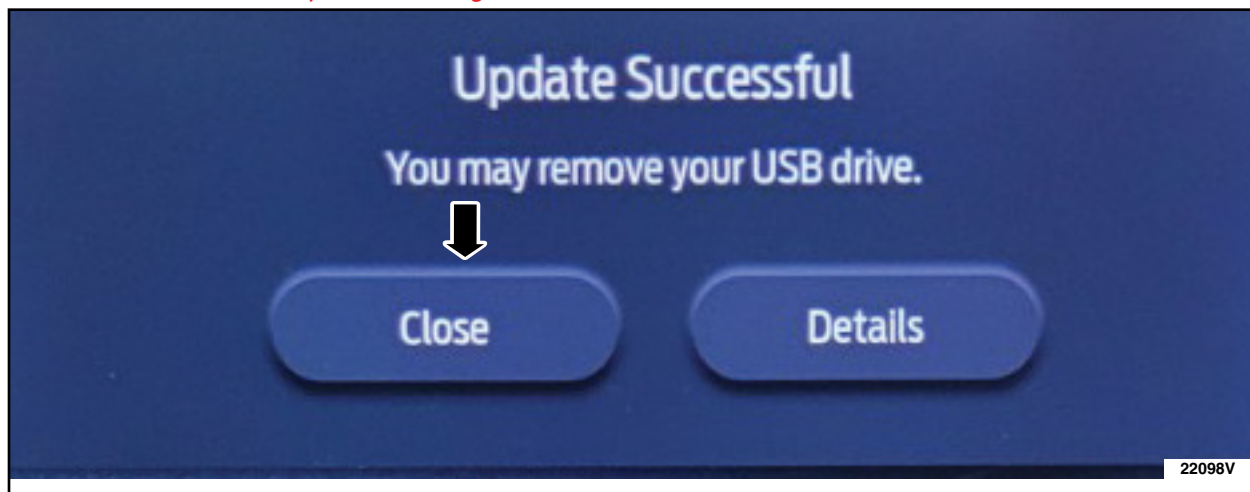

FIGURE 20
21. Restart the vehicle. **Only remove the USB stick from the vehicle when the update successful message appears.** See Figure 20.